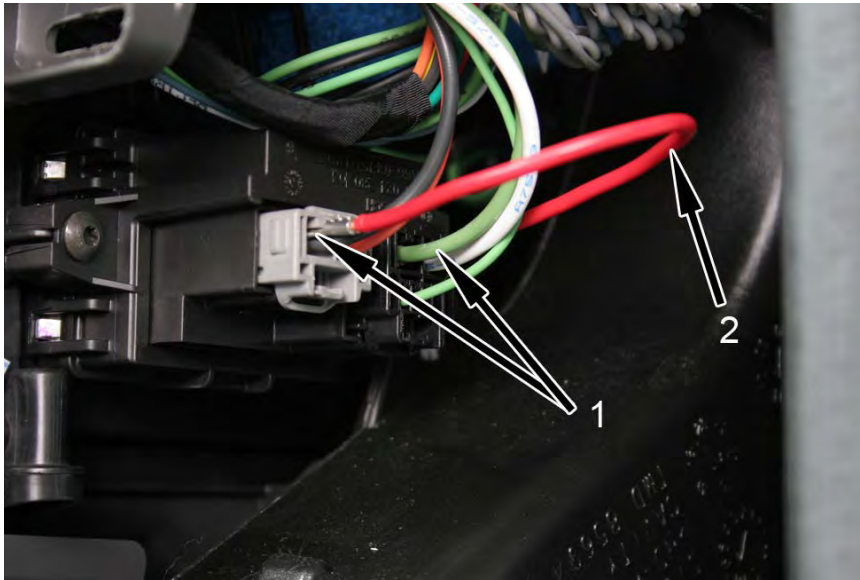

Figure 32 Using 12-gauge Jumper Harness
- e. Use a 12-gauge jumper harness to place the jumper across these two wires (See Figure 32, page 25).